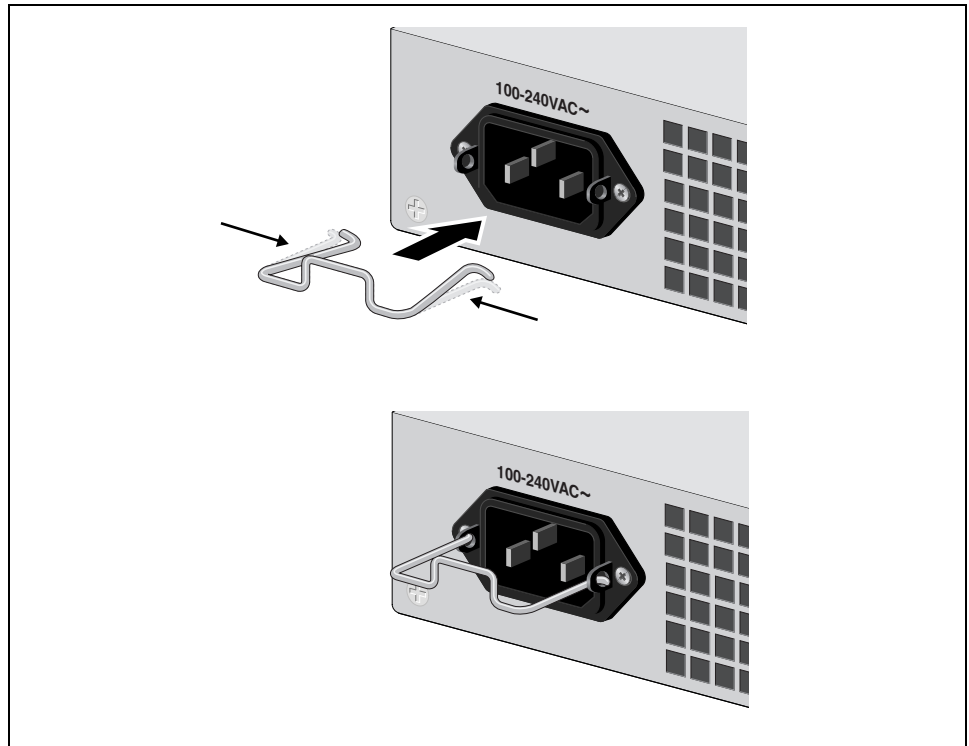

Figure 16. Inserting the Retaining Clip into the Retaining Bracket
2. Install the clip on the AC power connector on the back panel of the switch. With the “u” of the clip facing down, press the sides of the clip toward the center and insert the short ends into the holes in the retaining bracket, as shown in Figure 16.